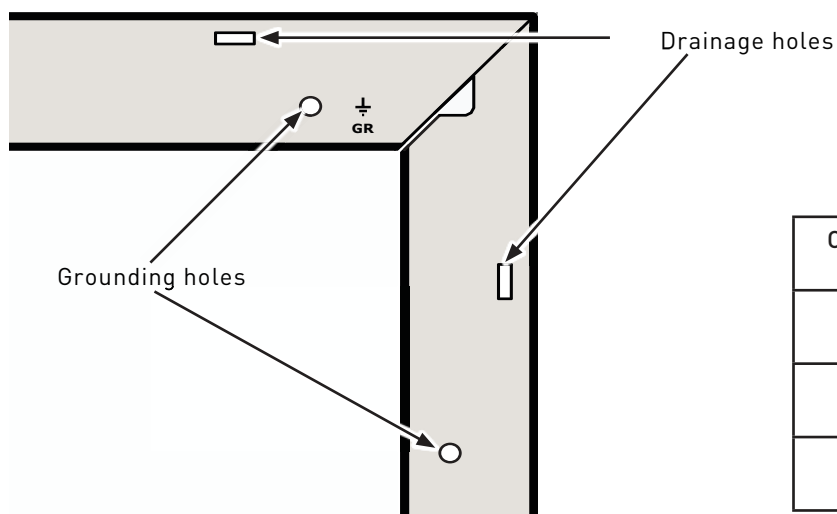

Figure 13 : Drainage and grounding holes
- In each corner of the EverVolt module frame small drainage holes are spaced 2.2 in (55 mm) from the corner on long and short sides (Figure 13). These allow humidity caused by rain, condensation, snow melt, cleaning or any other process to exit the frame easily and minimize damage.
- EverVolt modules have a small round grounding hole positioned near each corner of the module on both the long side and the short side, as shown in Figure 13 and can be further identified by the grounding symbol stamped in the frame next to it.